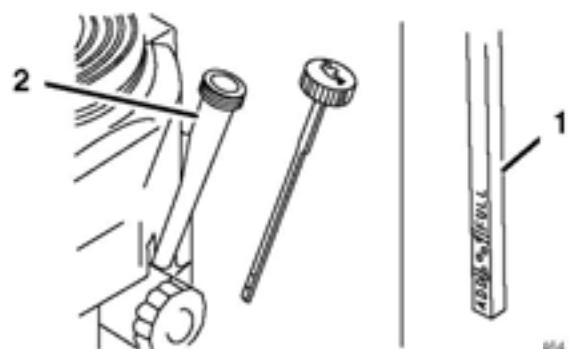

Figure 15
4. Clean around the oil dipstick (**Figure 15**) so that dirt cannot fall into the filler hole and damage the engine.
5. Unscrew the oil dipstick and wipe the end clean **Figure 15**.